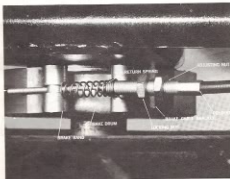

Figure 12
2. Loosen, **DO NOT** remove, locking nut several turns. (See Fig. 12)